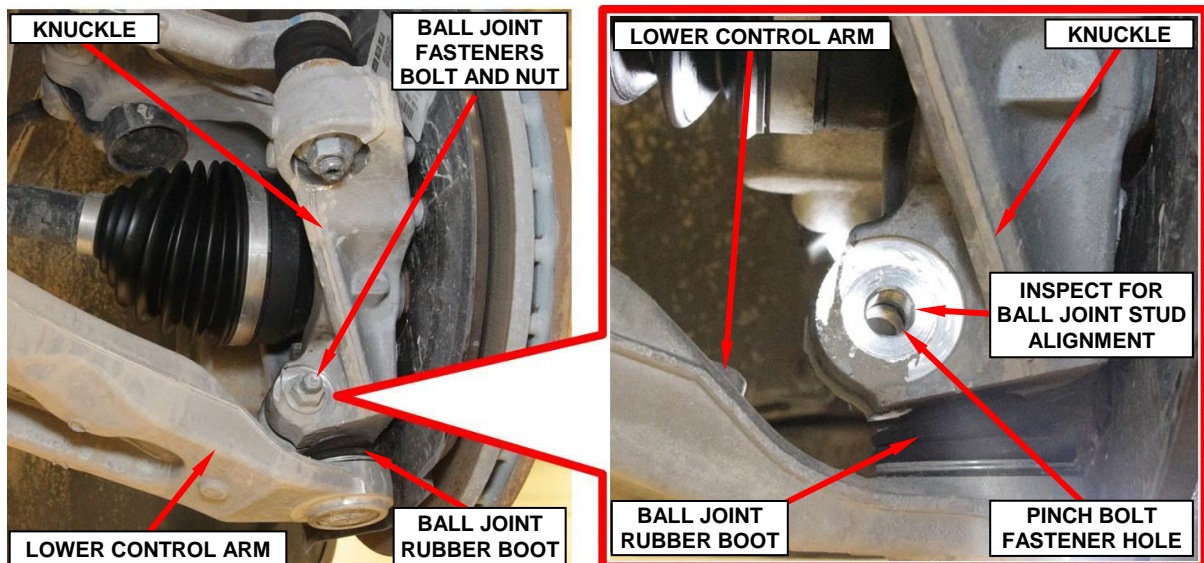

Figure 13 – Lower Control Arm Ball Joint
17. Front lower control arm ball joint to knuckle fasteners on the left and right side of the vehicle. Remove and discard the bolt and nut. Install a NEW bolt and nut. Hold the bolt while tightening the nut to 44 ft. lbs. + 48 degrees (60 N·m + 48 degrees) (Figure 13).
WARNING: Visually inspect that the lower control arm ball joint stud is fully inserted into knuckle before the pinch bolt is inserted into knuckle. Only the ball joint rubber boot should be visible below the knuckle; the ball joint stud should not be visible. Failure to fully and properly insert the ball joint stud into the knuckle could lead to wheel separation and loss of vehicle mobility and could result in personal injury and/or death (Figure 13).